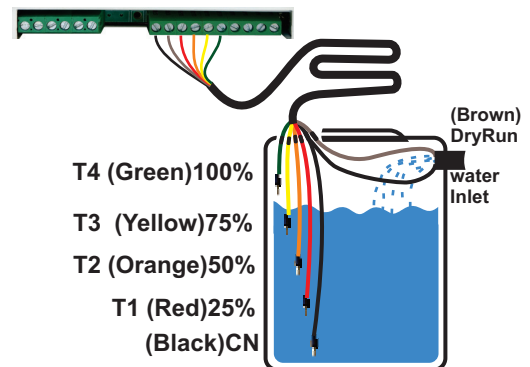

Figure4: sensor connection
Step 5: Lay 6 core cable between controller and tank. Join one end of the 6 core cable to sensor line connector of controller as per label. In tank side, **Contact type sensor connection:** Take the sensors and cut them according to the levels of tank and join them with the 6 core cable as per label coded. (Refer figure. 4) **Magnetic float sensor connections:** These Sensor has 2 wires, Use any one wire in each sensor as common. Other wires left in each can be used for levels. Join them with the 6 core cable as per label coded.
Step 6: Immerse the Sensors inside the Over Head Tank (OHT) and tape it. Sensors should be in 25%, 50%, 75% and 100% of tank. Dry run sensor should be fixed in the inlet of the tank. (Refer figure. 4)